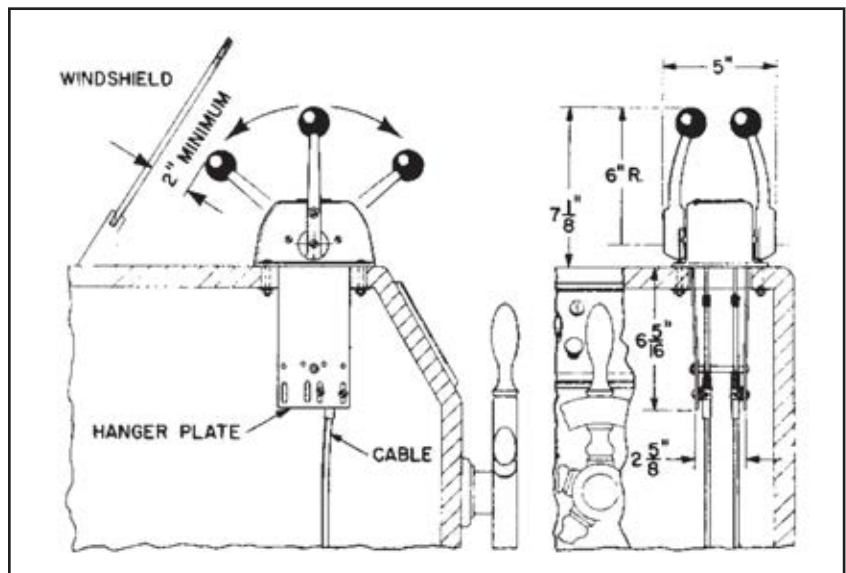

Figure 1.
STEP 1. Allow clearance for forward and reverse movement of the hand lever. (See Figure 1)